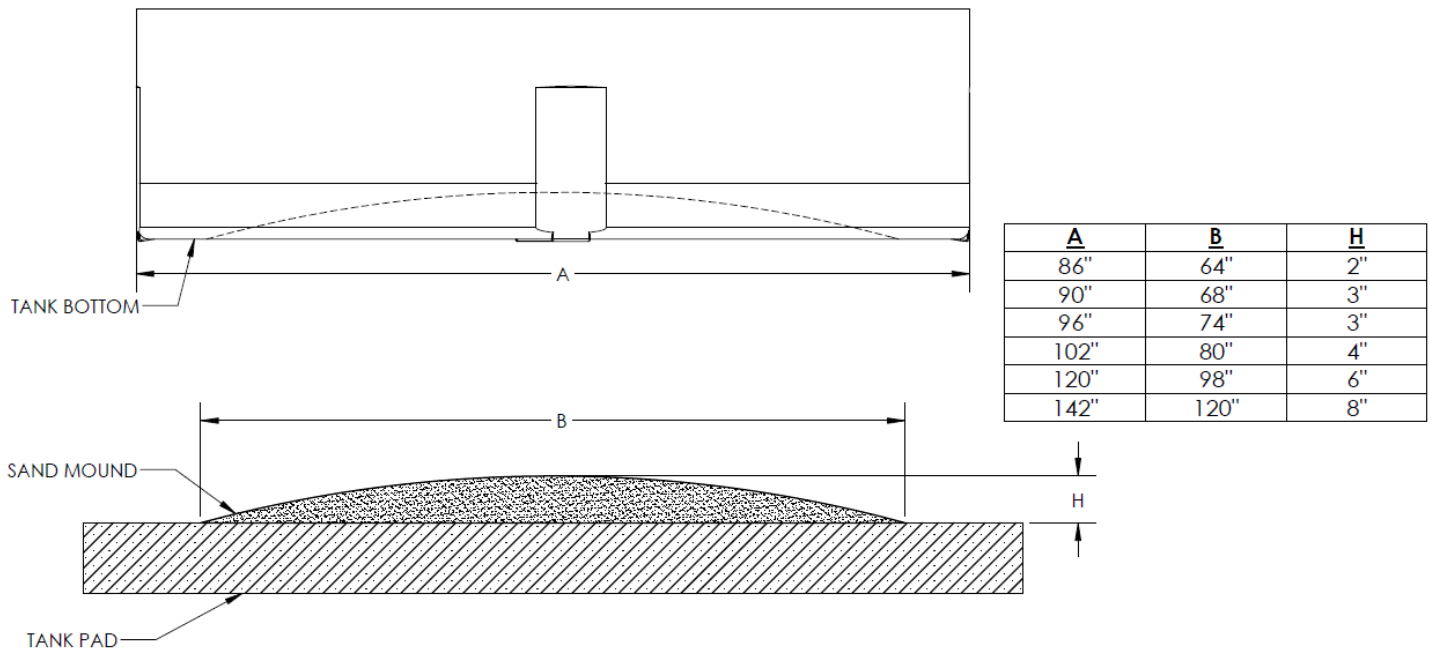

Figure 5.2
5.2.1 Vertical flat bottom tanks should be positioned on a concrete pad providing adequate support and a method to attach a tank restraint system (see Section 8 for restraint system pad placement criteria). The pad should be clean, smooth, and level so it fully supports the entire tank bottom with no deflection. The construction site engineer must design an appropriate concrete pad based on the specific application. **FAILURE TO PROVIDE PROPER FOUNDATION AND SUPPORTS WILL VOID WARRANTY.** A sand mound support can be placed under the tank bottom to promote tank drainage and extend tank life in certain applications. This is recommended for all tanks 10,000 gallons and larger. The sand should be a construction grade utility sand or finer. The tank and pad placement must be done to prevent any erosion of the sand from under the tank. Please refer to Figure 5.2. The sand mound must be very uniform without lumps or foreign objects. Per the chart in Figure 5.2, draw a circle on the tank pad and rake the sand uniformly with zero elevation at the circle perimeter and an elevation in the center per the chart in Figure 5.2. The chart recommendations are nominal dimensions. The best support is a sand mound that follows the normally convex shape of the tank bottom. If the tank bottom is not as convex as the dimensions shown for the sand mound in Figure 5.2, then follow the tank bottom. Adjust the sand mound shape/size so the tank has minimal contact with the sand when properly centered on the mound.